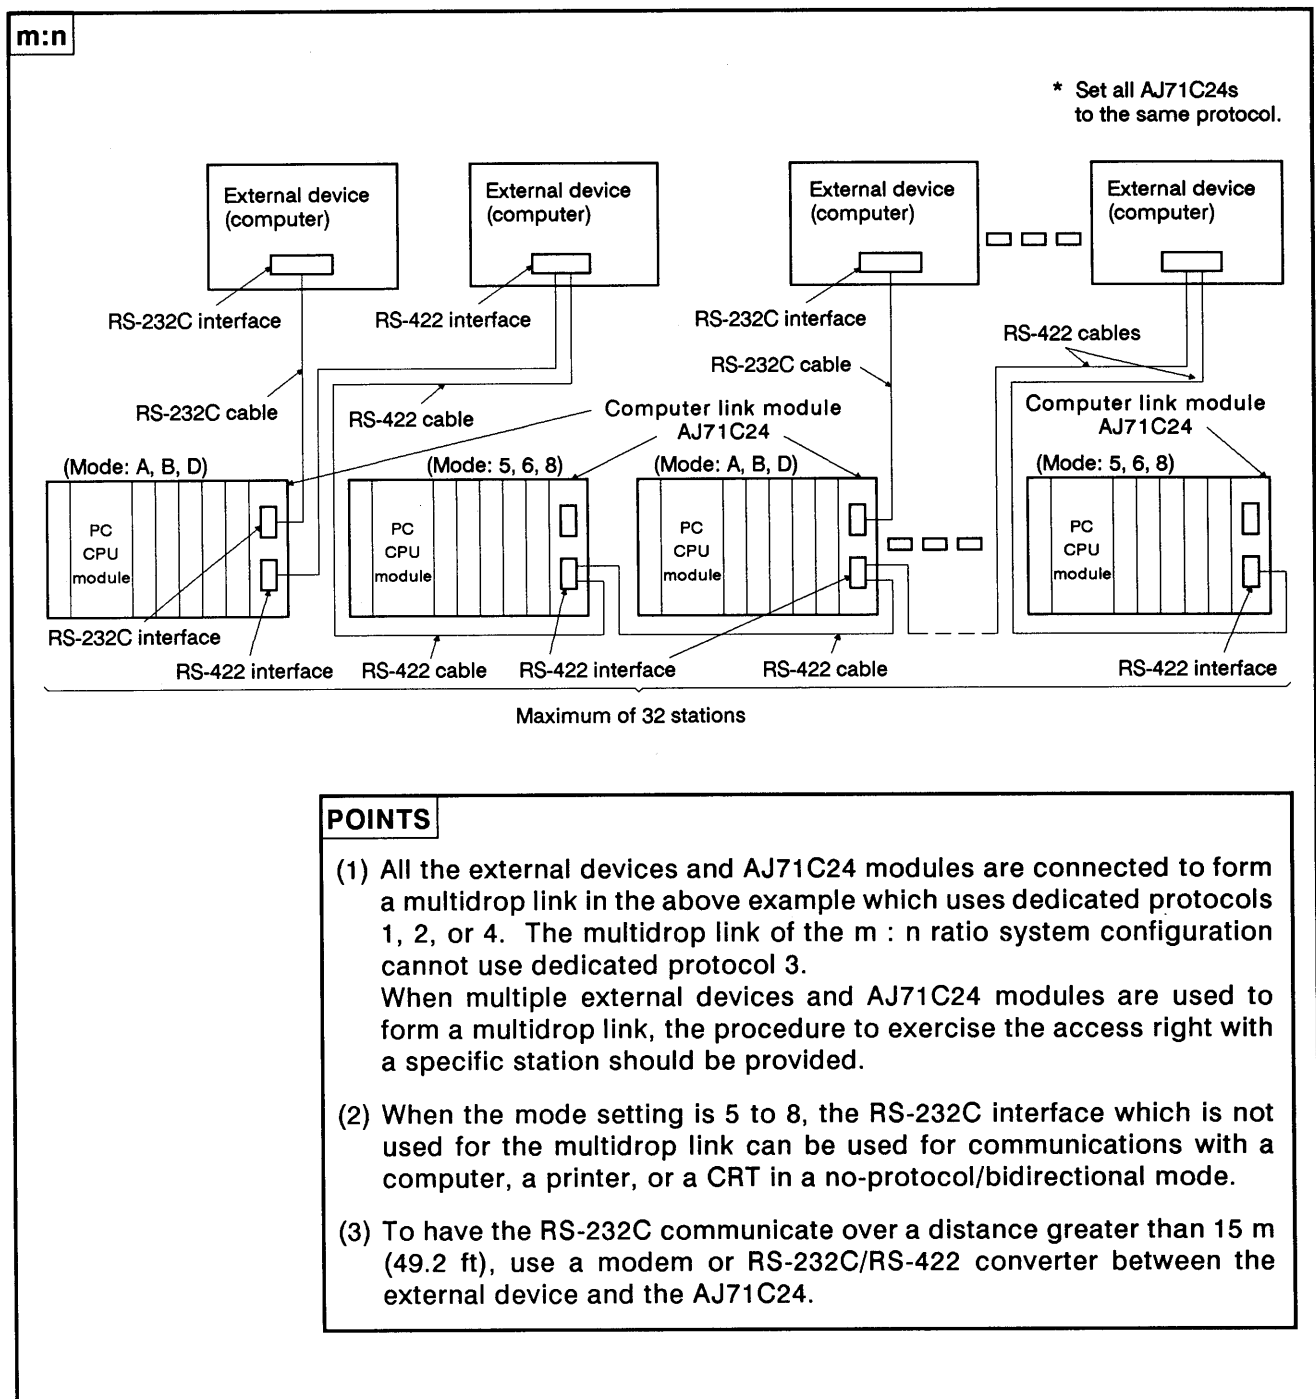

Fig. 2.6 System Configurations (V)
- (1) The system configuration for a m : n (up to 32 stations) ratio of external devices (such as a computer) to PC CPUs is shown in Fig. 2.6 below.